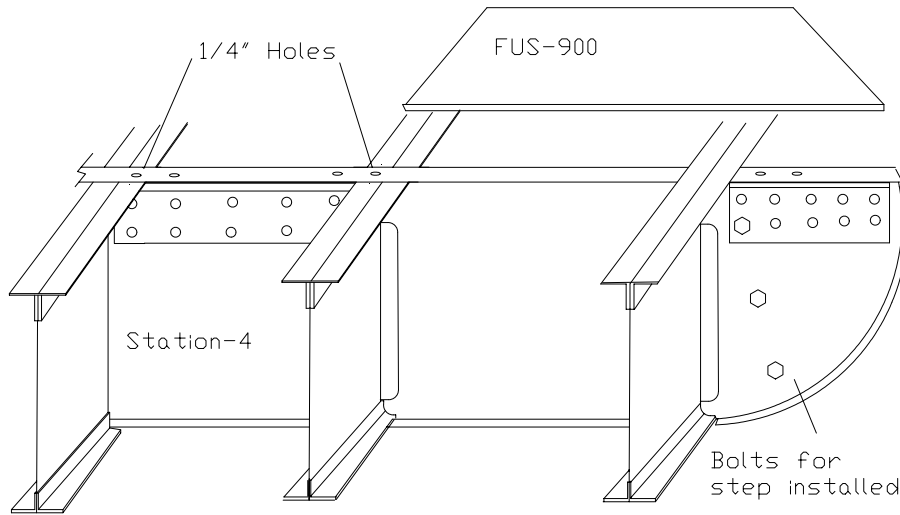
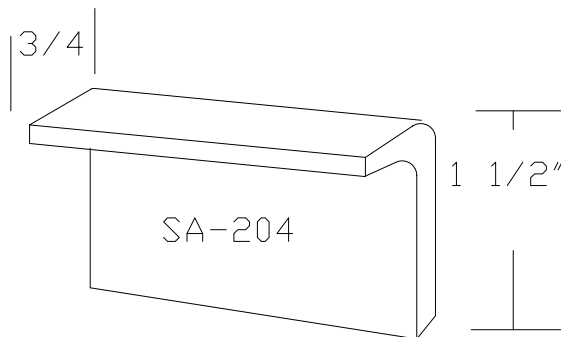

FIGURE 11
FIGURE 12
17) Bolt a Seatbelt Fitting as a spacer between two of the brackets (offset holes) and place the assembly on the top of the bulkhead centered on the flange and drill the 1/4" holes through the bulkhead. Figure 11 Repeat for the opposite side of the center section. Repeat this process for the center section at Station 7. (Stringers do not run through Station 4 on Trike version)
18) The two outboard 1/4 " holes labeled in Figure. 11 can be drilled into the stringer at the Station 7 bulkhead.
19) Cut and make four Seatbelt Support Angles out of SA-204, two to fit between the center section of Station 4 and Station 7. (Figure 12.) and two shorter angles to fit on either end of Station 4 bulkhead. Figure 11. You will have to measure their aprox. Length.
- 21) Install F5000-4 nut plates under the angles using the 1/4" holes as a guide. Layout and drill a rivet pattern on each of the angles through the bulkheads. Rivet together. **NOTE:** If you have installed the Step use one of the bolt holes as a guide for locating the outer two angles. Figure 11.
- 22) Locate FUS900 and FUS-901 right and left floor panels. They go from the leading edge of the forward stringer on Station 2 back to the Station 'BC' bulkhead on top of the angle you fabricated earlier. Trim flush with the inboard edge of the inboard sheer web angle. Figure 11.